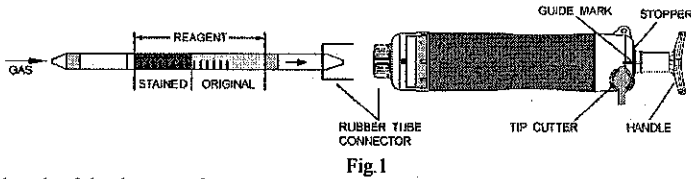

Fig.1
- ② Insert the detector tube into the aspirating pump securely as shown in Fig.1. (Arrow mark shall point to the pump.)
- ③ Align the guide marks on the handle and stopper of the aspirating pump.
- ④ Pull the pump handle at a full stroke until it locks and wait for 1.5 minutes or until the completion of sampling is confirmed with the flow indicator of the pump (See descriptions about the flow indicator in the instruction manual of the pump).
- ⑤ On completion of sampling, read the scale at the maximum point of the stained layer.